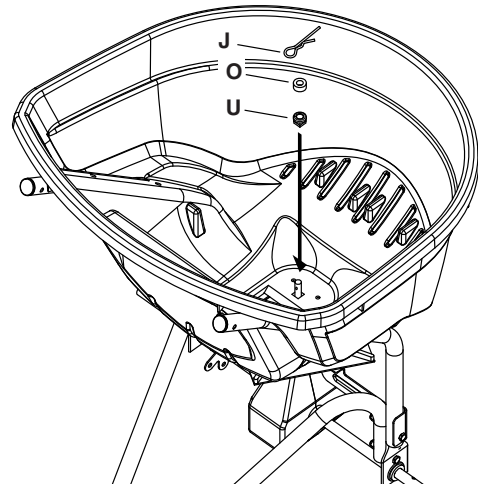

Figure 7
STEP 7: (SEE FIGURE 7)
- Slide the hopper bushing (U) onto the spreader shaft and insert it into the bottom of the hopper.
- Slide the spacer (O) onto the spreader shaft.
- Install the agitator hairpin (J) in the spreader shaft.